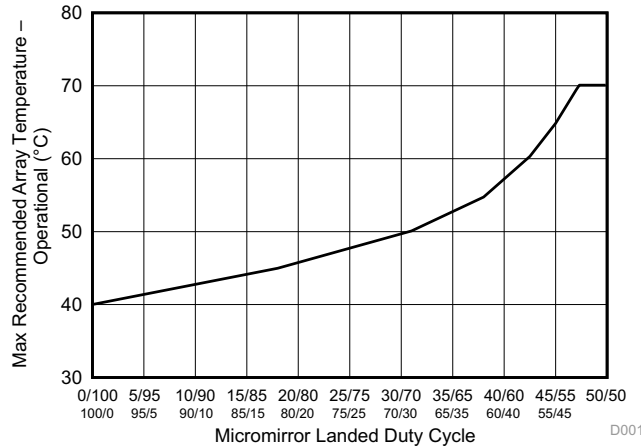

Figure 1. Max Recommended Array Temperature – Derating Curve
- (5) Per Figure 1, the maximum operational array temperature should be derated based on the micromirror landed duty cycle that the DMD experiences in the end application. Refer to Micromirror Landed-On/Landed-Off Duty Cycle for a definition of micromirror landed duty cycle.
- (6) Long-term is defined as the usable life of the device.
- (7) Short-term is defined as less than 500 hours over the usable life of the device.